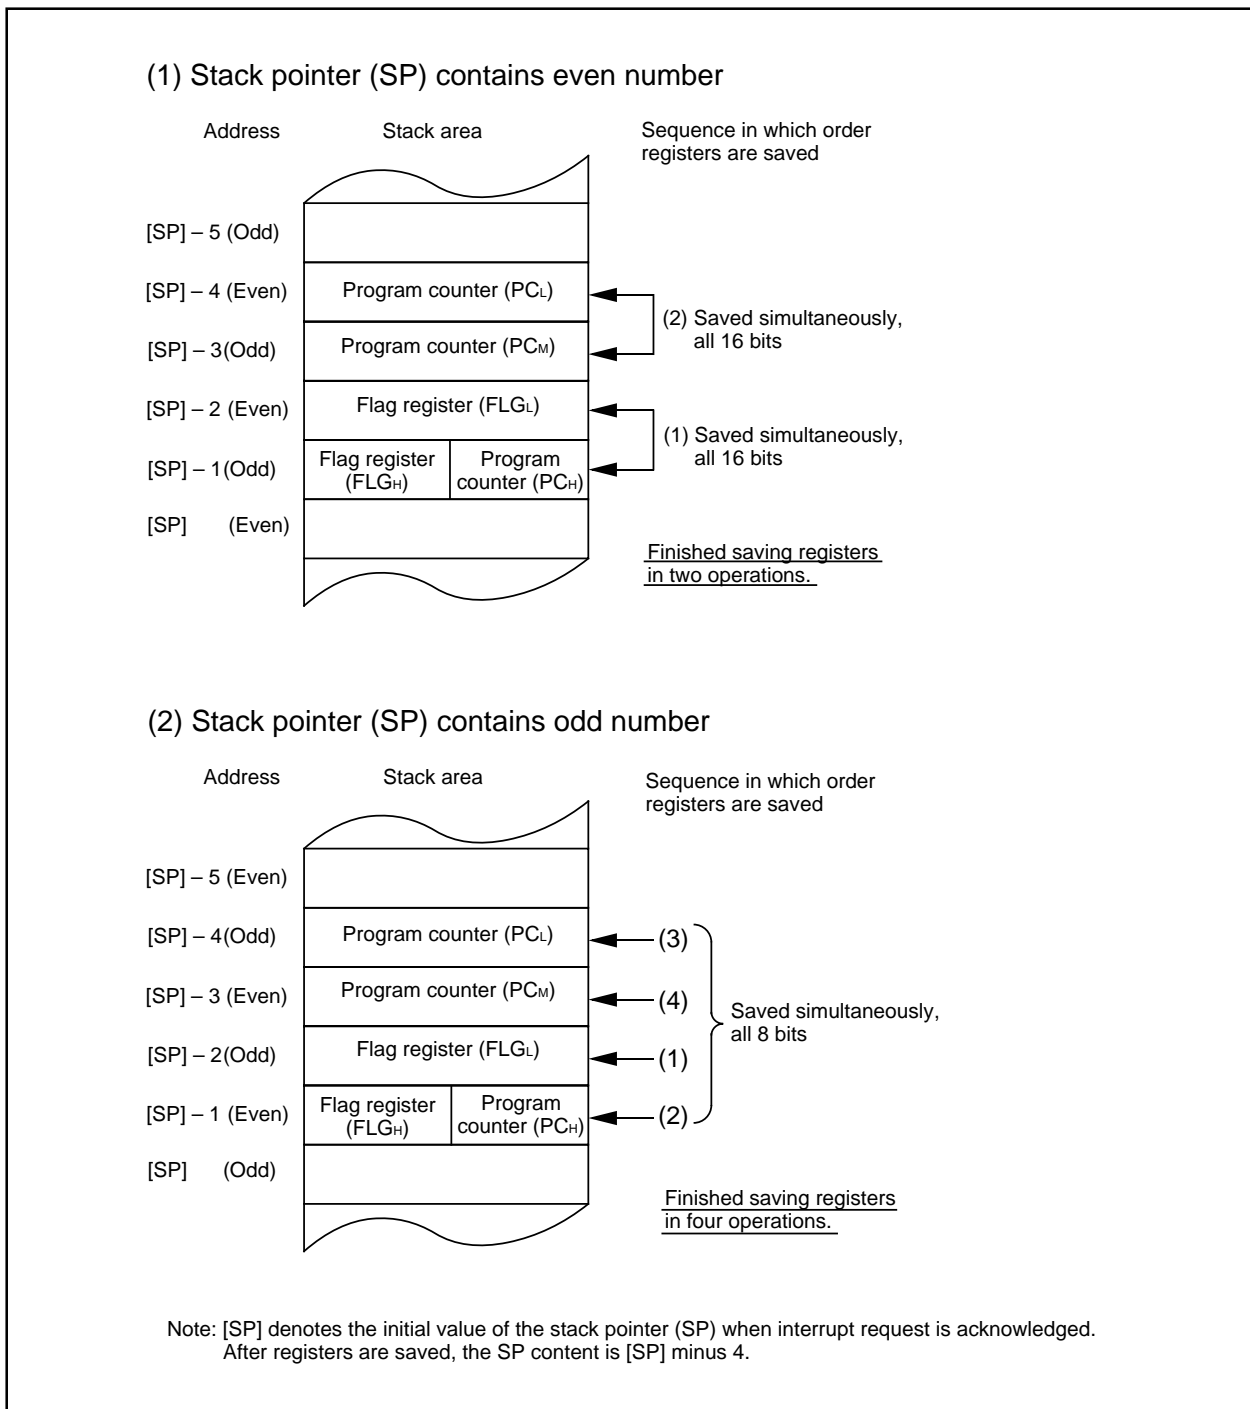

Figure DD-7. Operation of saving registers
The operation of saving registers carried out in the interrupt sequence is dependent on whether the content of the stack pointer, at the time of acceptance of an interrupt request, is even or odd. If the content of the stack pointer (Note) is even, the content of the flag register (FLG) and the content of the program counter (PC) are saved, 16 bits at a time. If odd, their contents are saved in two steps, 8 bits at a time. Figure DD-7 shows the operation of the saving registers.